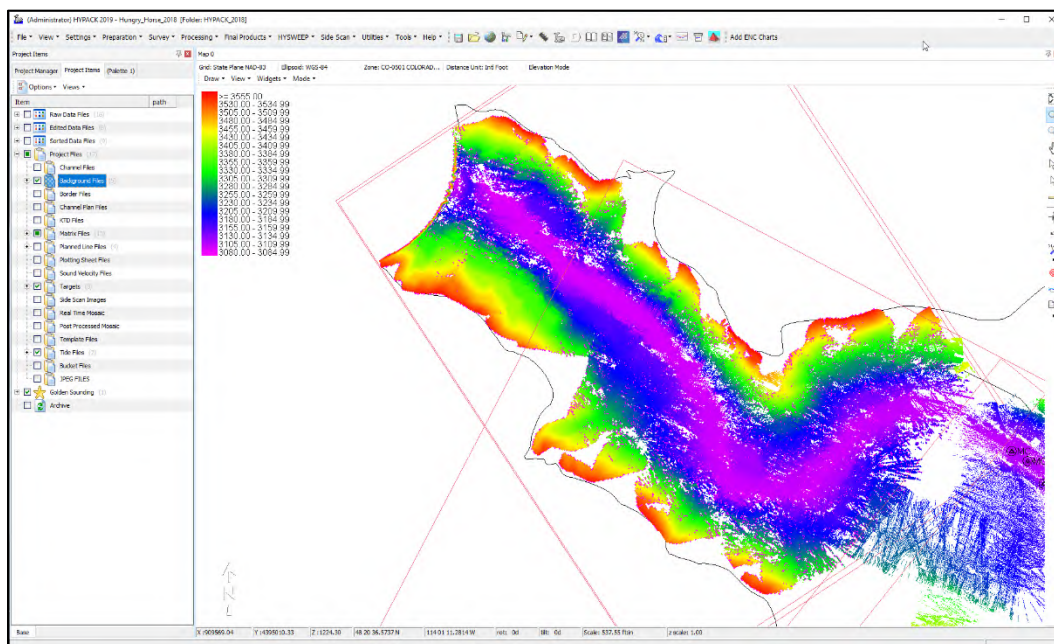
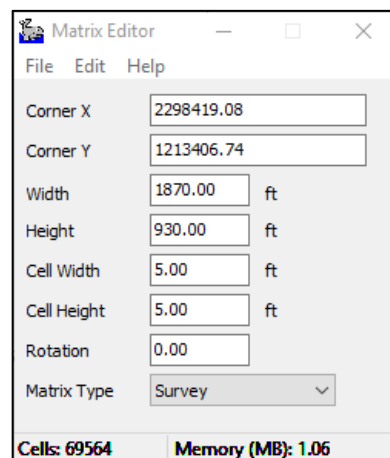
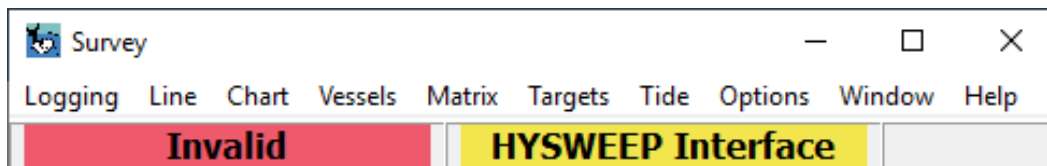
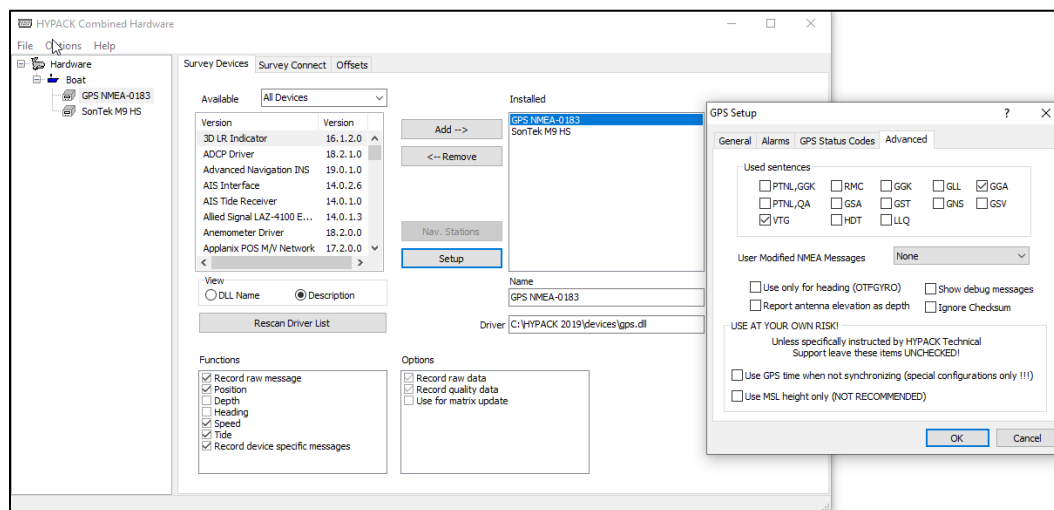

Figure 1.—Example of the HYPACK shell. This is the initial or home screen when using HYPACK.
Figure 3.—Matrix Editor window.
Figure 4.—HYPACK Survey window (and menu bar) accessed from the HYPACK shell.
Figure 5.—HYPACK Combined Hardware window for setting up survey devices.
The Geodetic Parameters window can be accessed via the drop-down menu in the HYPACK shell top menu bar (figure 1). Once the predefined grids and zone are established, ensure “Elevation Mode (Z-axis positive going up)” is checked. Under the RTK Tide Method radio buttons, verify “N from geoid model, K from user value” is also selected. This step will produce elevation values instead of raw or corrected depth values (figure 2). Once the geodetic parameters are set, click “OK” to exit the Geodetic Parameters window and re-enter the HYPACK shell.
In the HYPACK shell under the Project Items tab in the left-hand screen (figure 1), open “Project Files,” right-click on “Background Files,” and then select “Add File.” This is typically a “.shp” file that shows the border of the project area or a georeferenced “.tif” file that shows aerial imagery, but can be a variety of georeferenced image types to provide background information during data collection and processing.
Under the Preparation drop-down menu in the HYPACK shell top menu bar (figure 1), select “Line Editor” under “Editors” to create planned lines in the project area. Planned lines are used for orientation and navigation during data collection and represent the desired pattern for the survey vessel to traverse.
To view the survey coverage in real-time while collecting data, the user must create a matrix. Under the Preparation drop-down menu in the HYPACK shell top menu bar (figure 1), select “Matrix Editor” under “Editors” to create a rectangular box to use as a matrix. The matrix box does not need to conform to project borders, but should cover a larger area than anticipated. At this juncture, it is important to determine matrix cell size. For shallower areas, the cell size should be set to smaller dimensions. For deeper areas, the cell should be set to larger sizes. It may be useful to create multiple matrix areas for the survey depending on anticipated depth (figure 3).
Once matrix files are created, collected bathymetry data will display and update in real-time if it is selected in the HYPACK Survey window (figure 4). Under the Survey drop-down menu in the HYPACK shell top menu bar (figure 1), select “HYPACK Survey” to access this window. Once in the HYPACK Survey window, load the matrix files using the following two steps:
1. Click on “Matrix” from the HYPACK Survey menu bar (figure 4).
Within a project, survey devices are set up in the HYPACK Combined Hardware window (figure 5). Under the Preparation drop-down menu in the HYPACK shell top menu bar (figure 1), select “Hardware Setup” to access this window. Under the Hardware and Boat mobiles on the left side of the HYPACK Combined Hardware window, add two devices—one for the Global Positioning System (GPS) data (gps.dll) and one for the SonTek M9 (SonTek_M9.dll) (figure 5).
1. In the HYPACK Combined Hardware window, verify both the GPS device and the **Survey Devices** tab are selected. In the Functions box in the lower left corner of the Survey Devices tab, ensure everything is checked EXCEPT “Depth” and “Heading,” then click on “Setup.” Under the Advanced tab in the GPS Setup popup window, ensure only the “GGA” and “VTG” used sentences are checked, then click “OK” (figure 5).